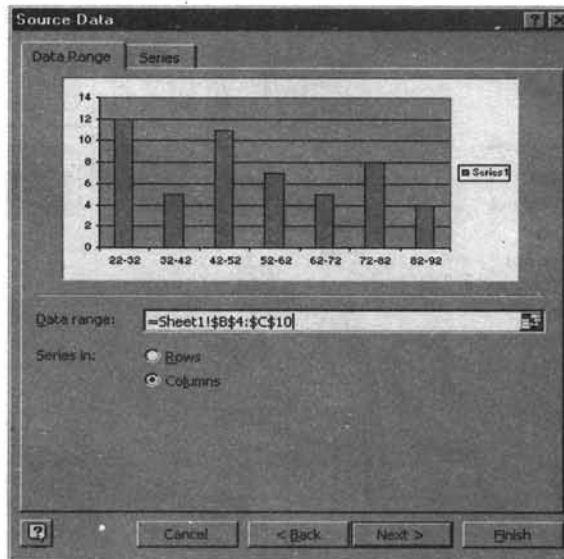

Figure 2.14
Step 4 Highlight with your mouse the input data in the *Data range*. The figure 2.14 will be displayed: